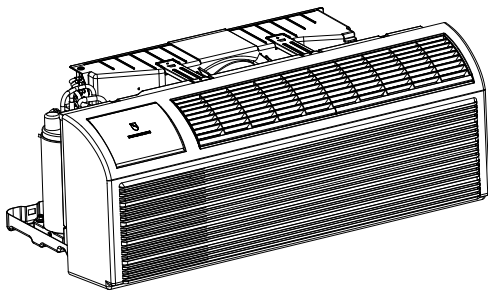

Fig.C.5.2.1–Shipping Tape Location
- 1.Carefully remove shipping tape from the front panel and vent door.See Fig. C.5.2.1